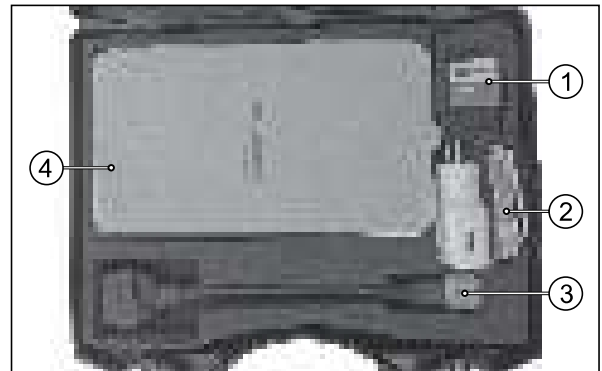

Fig. 7.2
- The malfunctions can be checked in detail using 'Ride Scan' tool. The ride scan tool consist of the following items: (Fig. 7.2)